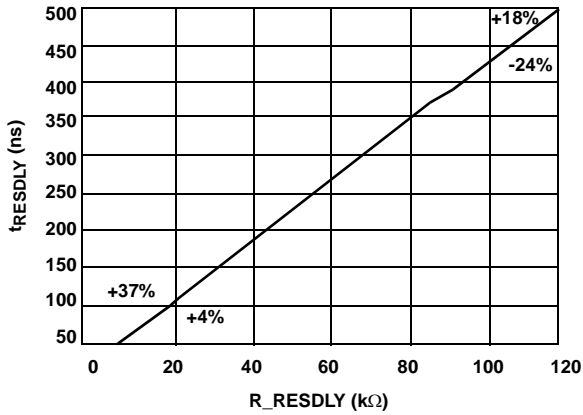

FIGURE 7. R\_RESPLY vs RESPLY
- Figure 7 illustrates the relationship of the value of the resistor ( $R\_RESPLY$ ) and the resonant delay ( $t_{RESPLY}$ ). The percentages in the figure are the tolerances at the two end points of the curve.